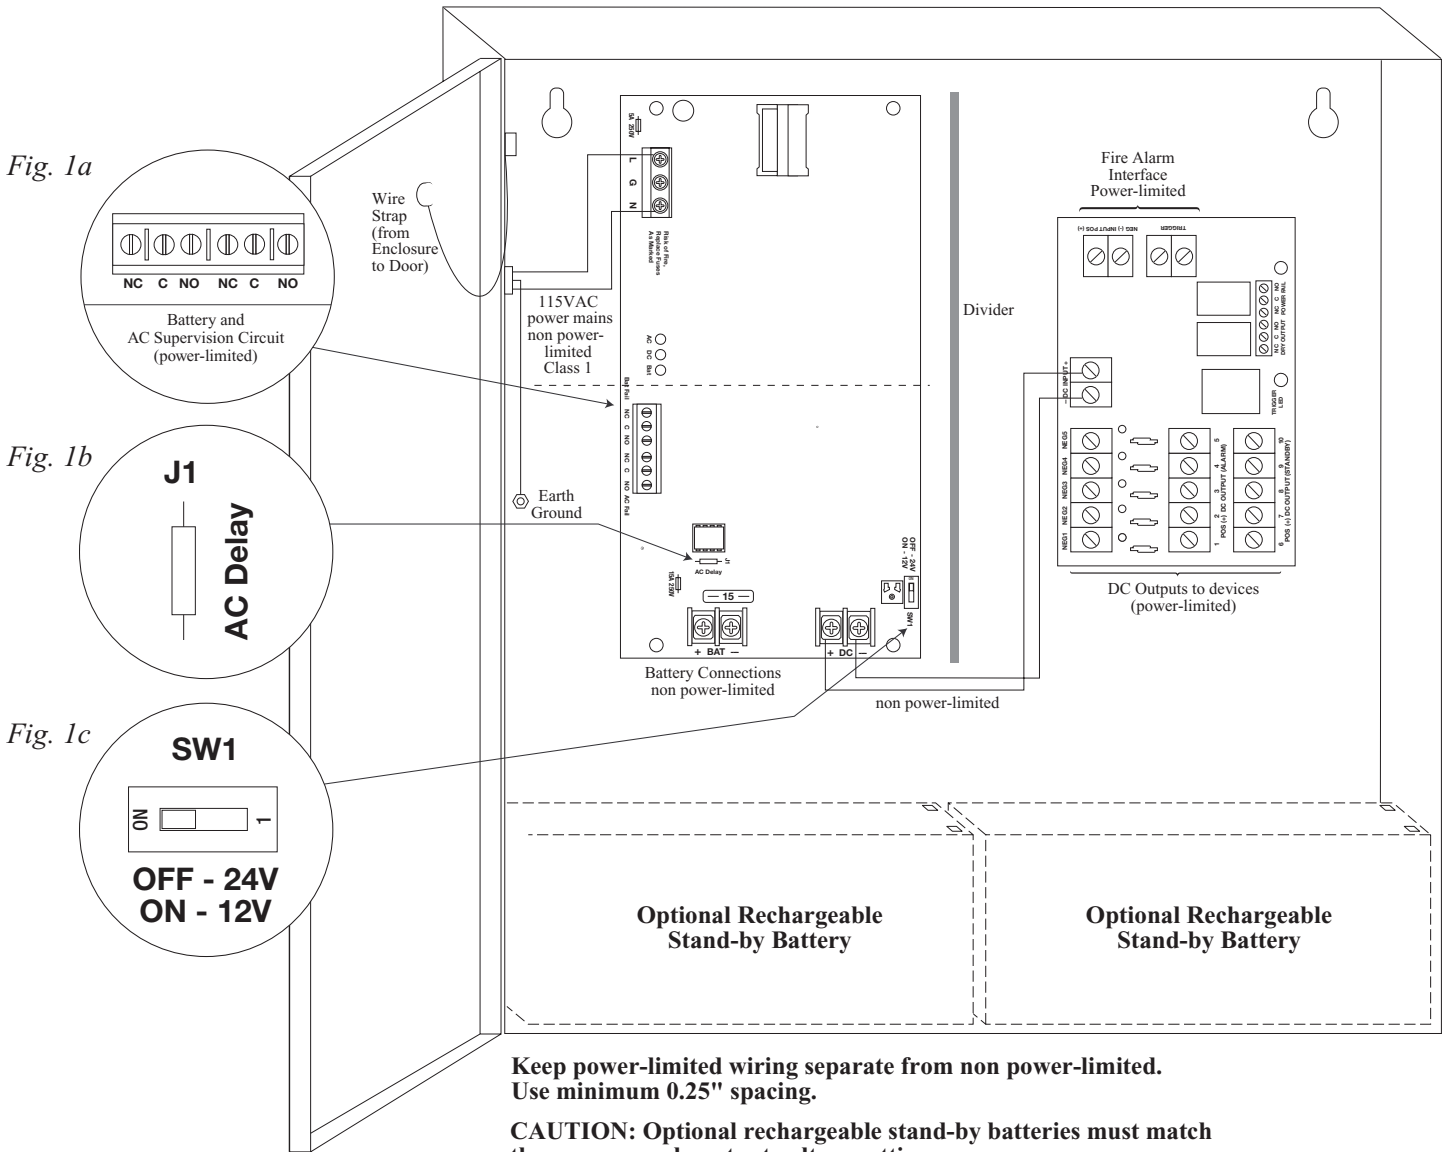

Fig. 1a
11. Connect supervisory trouble reporting devices to outputs marked [AC FAIL, LOW BAT] and [Power Fail] supervisory relay outputs marked [NO, C, NC] on power supply board (*Fig. 1a, pg. 5; Fig. 2a, pg. 6; Fig. 3a, pg. 7; Fig. 4, pg. 8*).